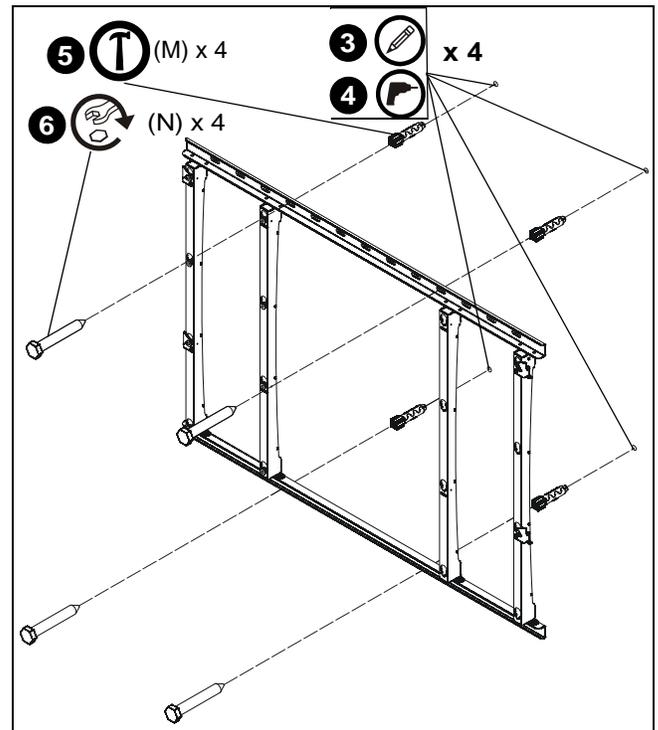

Figure 3
3. Using assembled mount as a template, mark four holes in selected mounting holes on wall. Use a level to make sure of an even mount. (See Figure 3)
4. Drill four 3/8" holes in wall 2 1/2" deep at marked locations. (See Figure 3)
5. Install four concrete anchors (M) into four drilled holes on wall. (See Figure 3)
6. Install four 3/8 x 2 1/2" hex head lag screws (N) through holes on mount and into four concrete anchors. (See Figure 3)